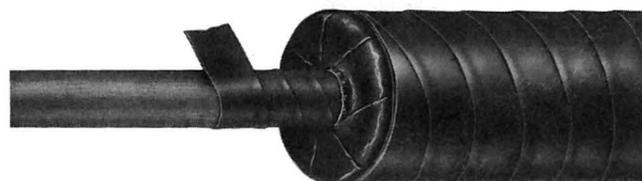

Fig. 13—Taping Cable and Sleeve Junction
**3.08** Starting at the junction of the cable and the sleeve, make two turns of tape around the cable, covering the edges of the strips previously applied. Then cover the cable with one half-lapped layer of tape extending about 3 inches beyond the end of the corrosion protection and finish with two full turns of tape. Do not stretch the tape (Fig. 13).